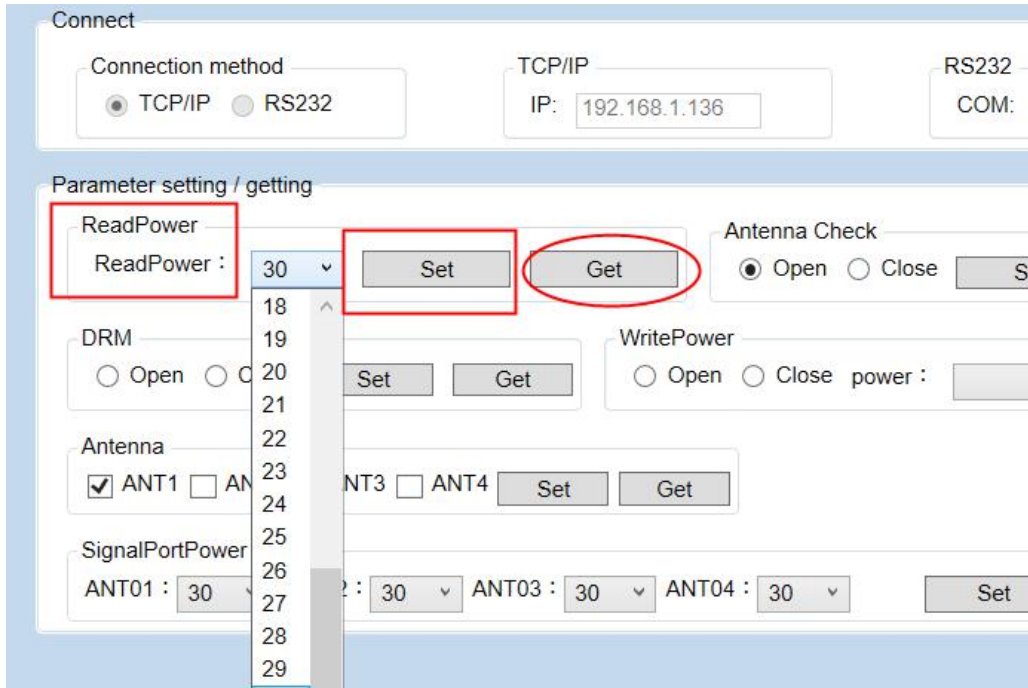

Figure 6
4.1 Unified setting: this setting will uniformly set the power of all ports of the reader, as shown in "Figure 6" below. Select the value to be set in the power drop-down box and click Set. Click "get" to obtain the current power of all ports.